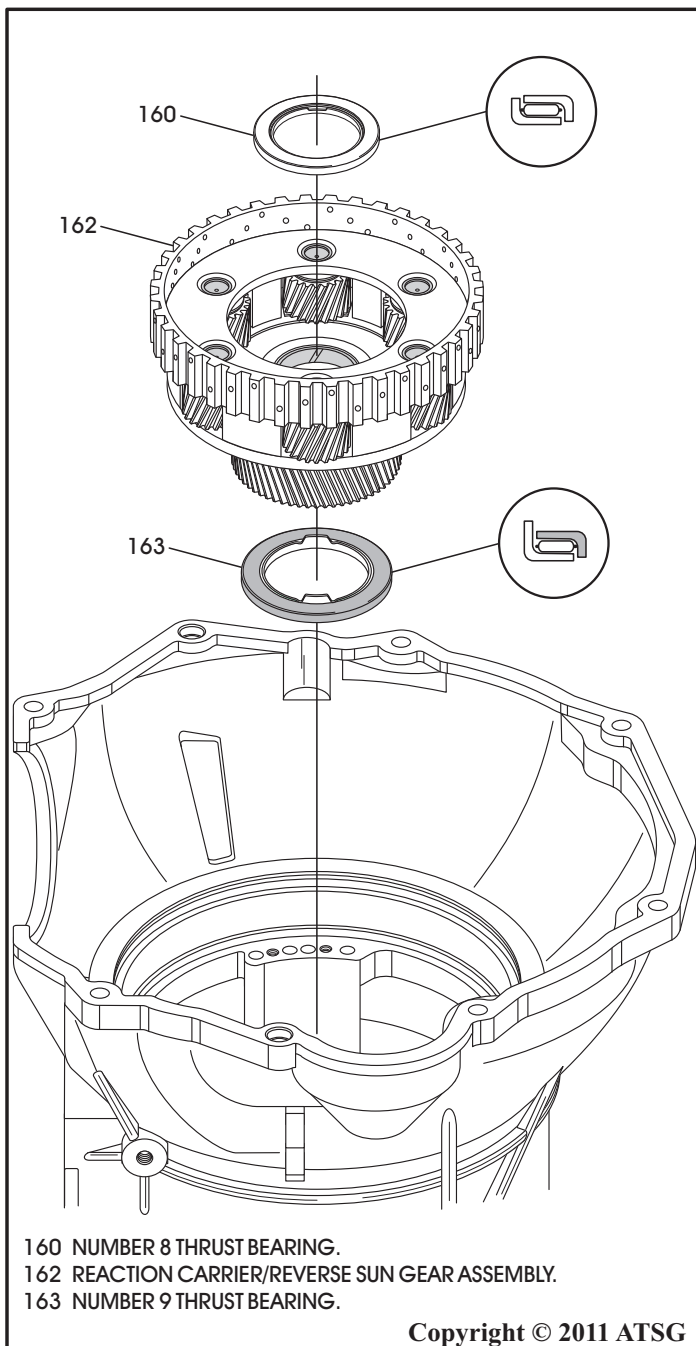

Figure 143
9. Install the number 9 thrust bearing onto the back side of reaction carrier/reverse sun gear with the Black side of bearing facing sun gear, as shown in Figure 143, and retain with a small amount of Trans-Jel®.
10. Install the number 8 thrust bearing down inside the reaction carrier/reverse sun gear in direction shown in Figure 143.
11. Install the completed assembly into transmission by rotating into position (See Figure 143).